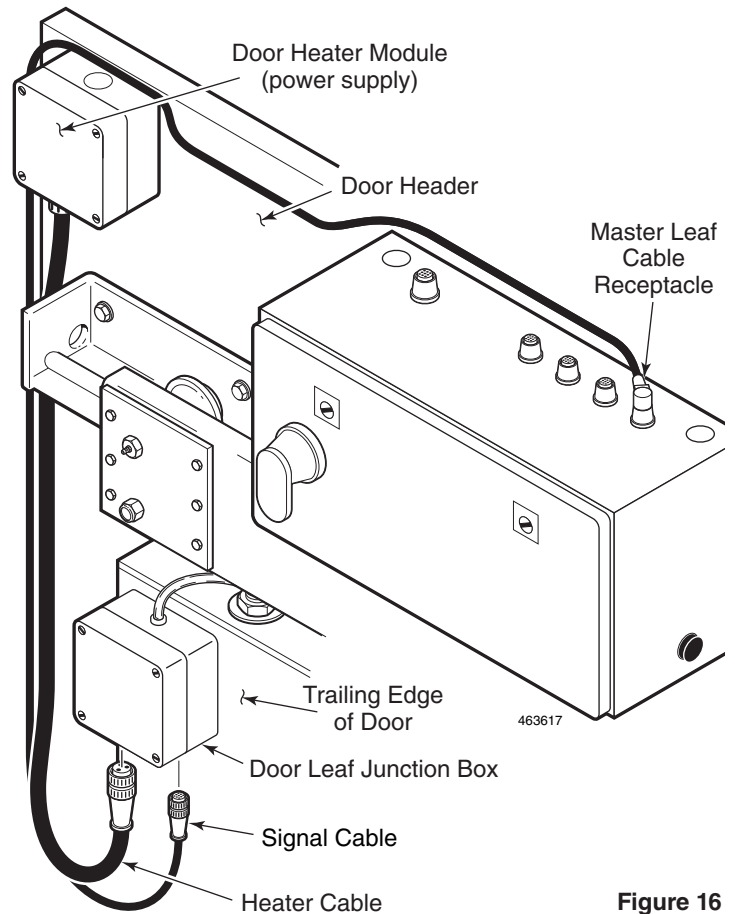

Figure 16
Single Sliding Doors only. Connect the 8-pin Signal Cable (thin cable) to the corresponding receptacle on the Door Leaf Junction Box. See Figure 16.
Bi-Parting Doors only. Connect the 8-pin Signal Cable (thin cable) twist plug to the corresponding receptacle on the Door Master Leaf Junction Box. In a similar fashion as above, connect the 4-pin Signal Cable (thin cable) to the Junction Box on the Door Slave Leaf. See Figure 16.
Freezer doors are equipped with a Door Heater Module mounted on the Door Header. Bi-Parting doors have a Door Heater Module mounted on each end of the Door Header. See Figure 16.
1. Switch off the power to the Heat Cable Module(s). Connect the 3-pin Door Heater Cable(s) (thick cable already connected to the Door Heater Module), to the corresponding receptacle(s) on the Door Leaf Junction Box(es). See Figure 16.